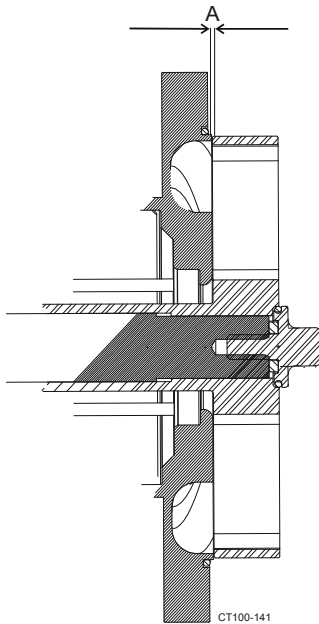

Figure 29 - Place Shims Between Impeller and Backplate
4. Temporarily place .020" shims 180 degrees apart between impeller and backplate to preset clearance. **Remove shims before final assembly** (Figure 29).